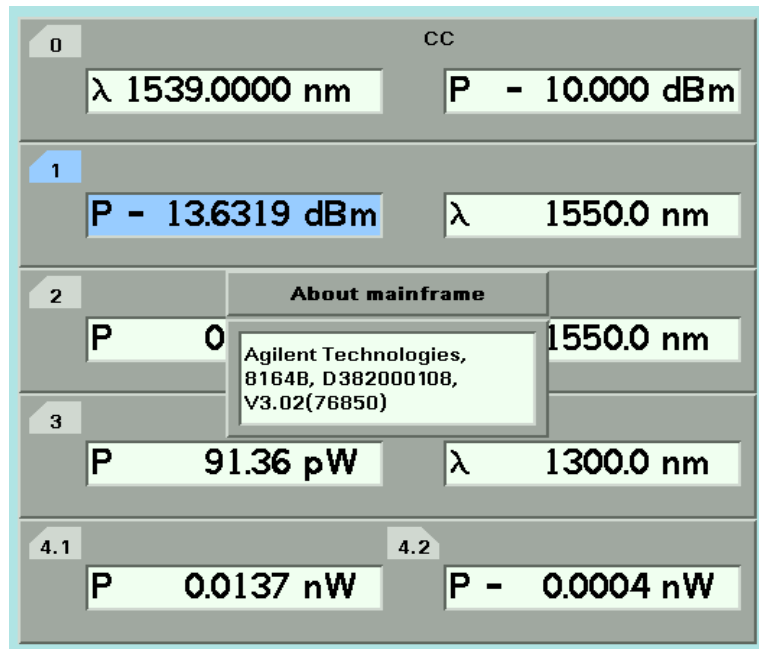

Figure 54 Viewing Information About the Mainframe
- 2 Move to the <About Mainframe> menu option and press *Enter*. You see a box displaying information about your mainframe, see Figure 54 on page 94. The manufacturer, part number, serial number, and firmware revision of the mainframe are listed.